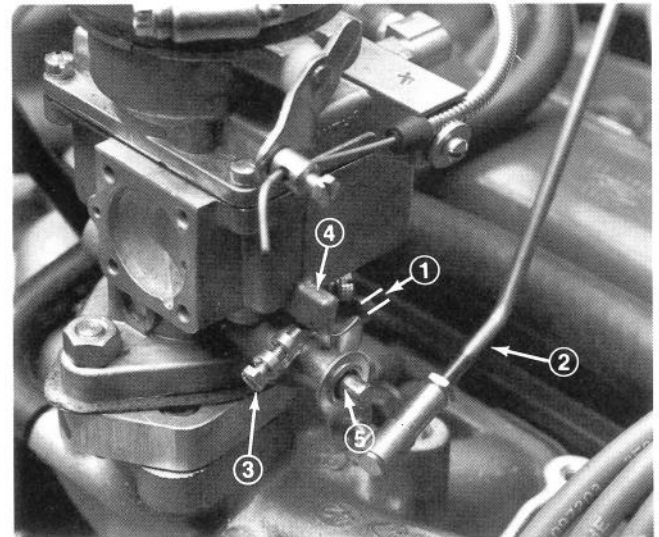

Figure 40
1. With engine shut off, move throttle control to FAST position and open hood. Check between the throttle arm and the stop on carburetor base to make sure there is 1/32 inch (0.8 mm) gap (Fig. 40). If gap is not correct, adjust throttle rod (Fig. 40) by turning ball joint ends until gap is 1/32 inch (0.8 mm). If gap is correct, proceed to step 2.
3. Rotate throttle arm closed until it contacts stop (Fig. 40).